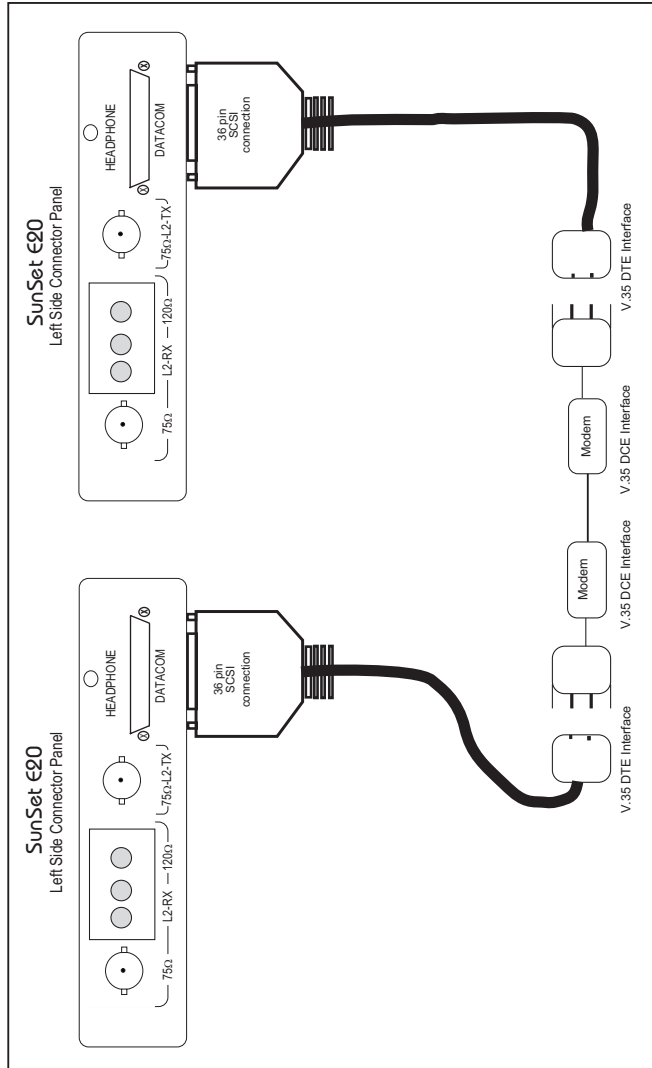

Figure 145 V.35 Datacom Test
- 4) Connect the SunSet E20s to the circuit as shown in Figure 145.